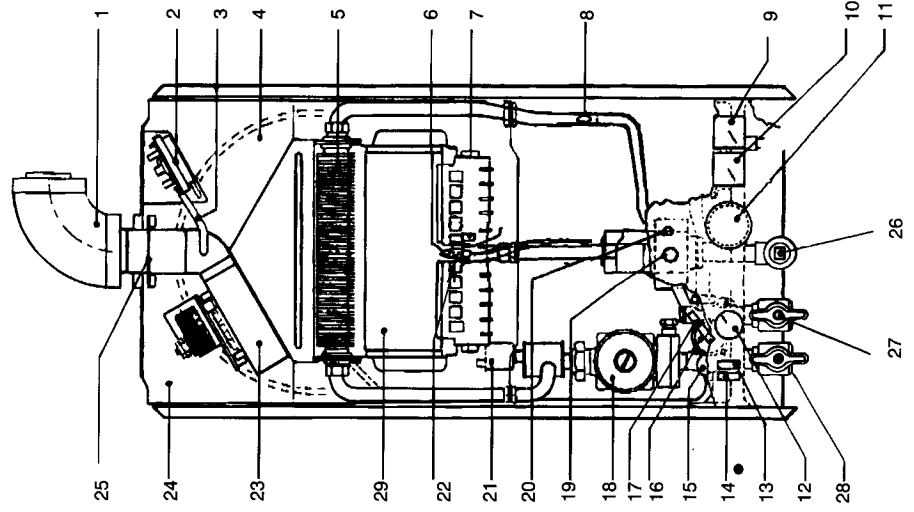

Fig.1 General Layout
- 2.1** Fig. 1 illustrates the general layout of components. Fig. 2 illustrates the operating principles described below